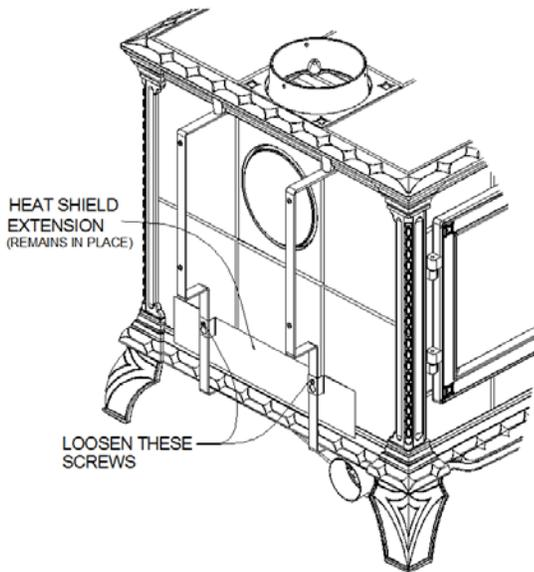

Figure 11
- 8) With the perforated screen facing away from the stove back (as illustrated below), position the blower so that the screws securing the heat shield extension pass through the key holes in the back of the blower, then push down to catch the screws (Figure 11).